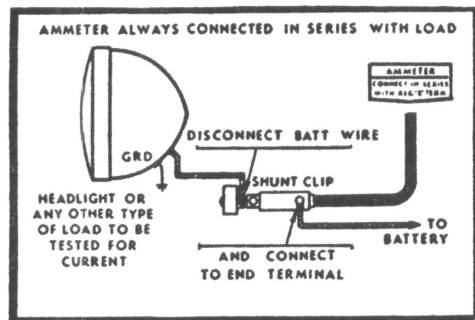

Fig. 12
5. Use AMMETER leads to measure CURRENT (amperes) placing the SHUNT CLIP in Series with the circuit to be tested (not to exceed 60 amperes).—Fig. 12.